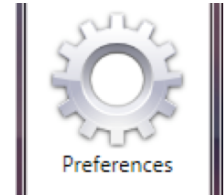

Figure 50
- 1) Open the Preferences dialogue box by clicking on the "**PREFERENCES**" button on the Tool Panel (Figure 50).